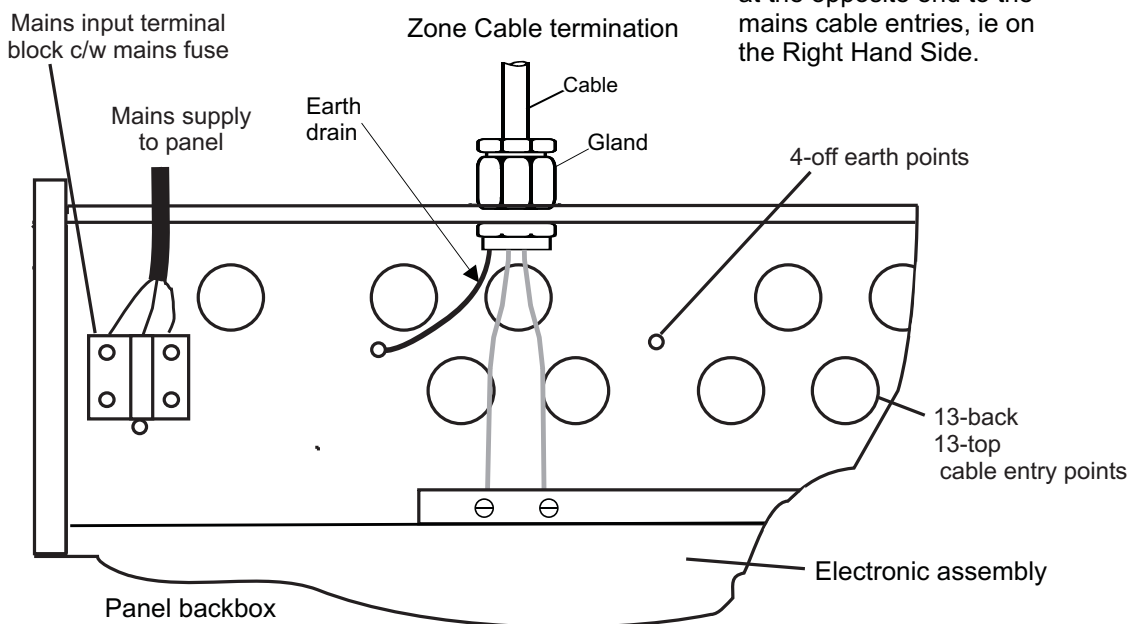

Figure 8 Panel cable entry and earth points
**NOTE:** The cable from the main panel to repeat panels if fitted must be a screened cable. Refer to Figure 8.